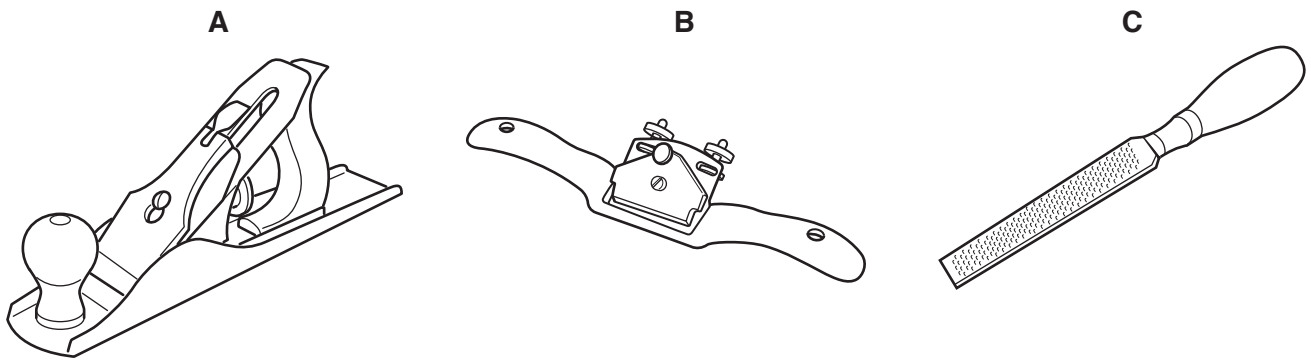

Fig. 7
11 Three different tools are shown in Fig. 7.
- (a) Name the tools shown in Fig. 7 and state a specific use for each. [6]